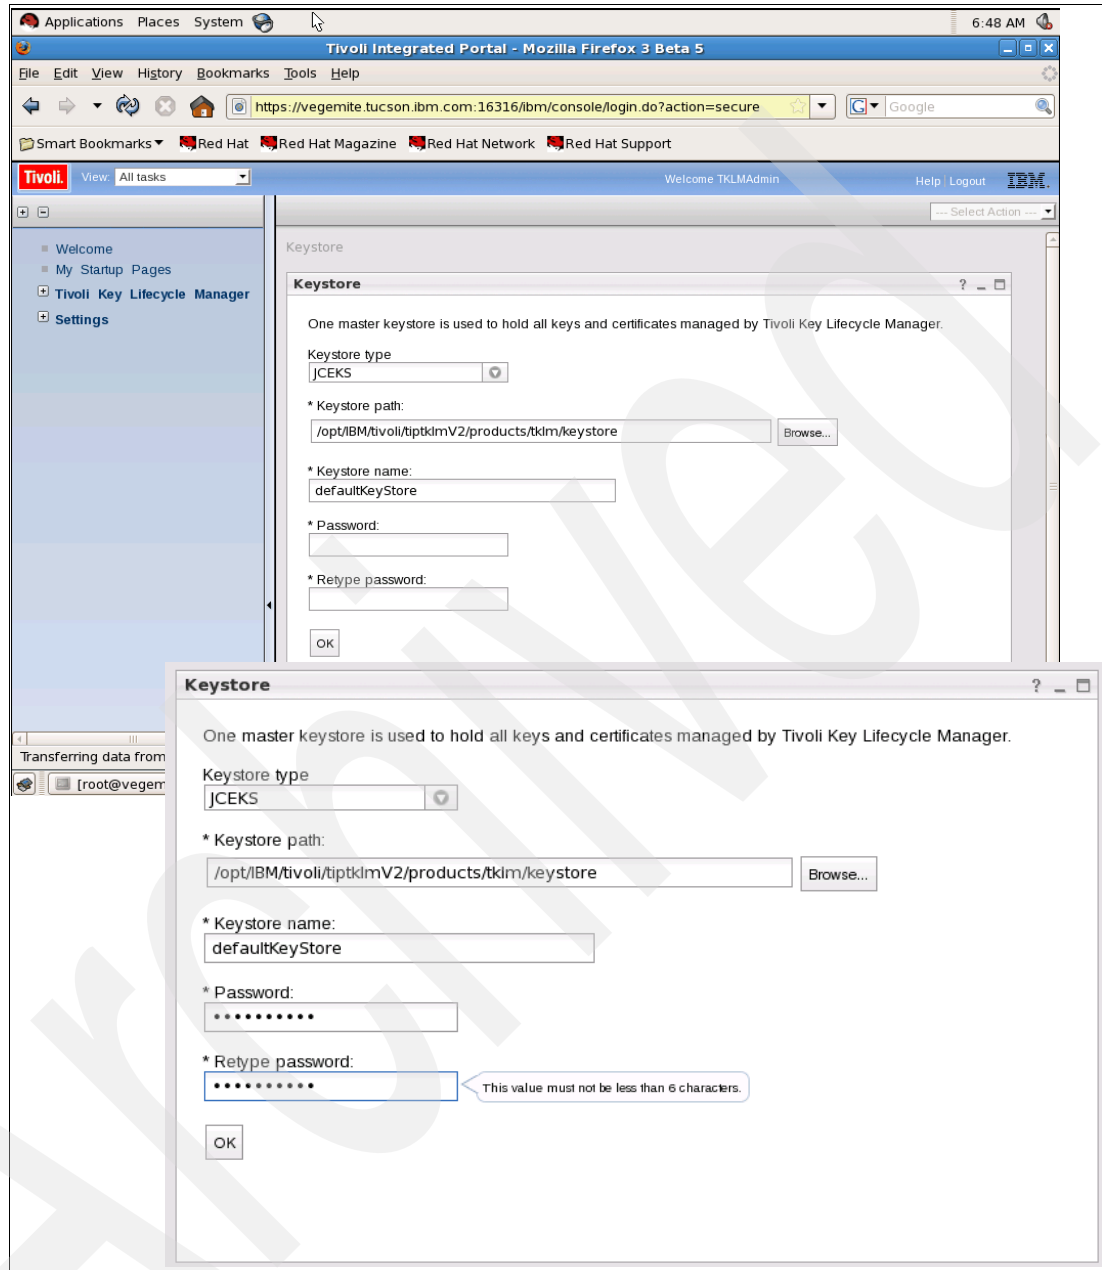

Figure 7-23 Keystore credentials
26. Keystore credentials are requested (Figure 7-23). Type the required information and click **OK**.